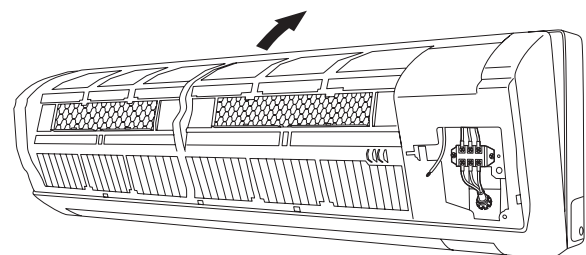

Fig. 18b
- (1) When installing the grille, place the bottom of the grille into the frame first. (Fig. 18b)